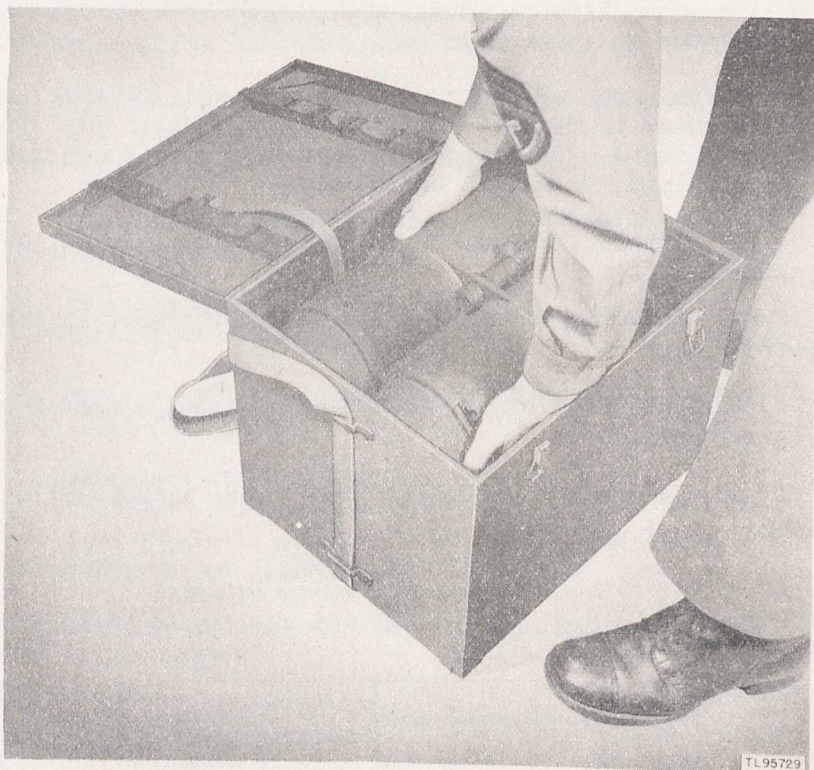

Figure 13. Removing optical unit from case.
(1) Remove the tripod from the canvas carrying case.
(2) Set up the tripod and adjust the legs to a convenient length. Keep in mind the clearance necessary for the light beam of local obstacles, and convenience of access to the telescope and peepsights. Lock the legs in position. When tightening the locking controls, turn them outward as viewed from the top.
(3) Press the metal end-tips of the tripod legs firmly into the ground, or when using the equipment on a hard surface, brace them to prevent sliding.
(4) Open the optical unit carrying case, release the canvas retaining strap, and remove the optical unit from the case. When removing the unit from the case observe the precaution given in paragraph 9a. When removing the unit grasp it as shown in figure 13.